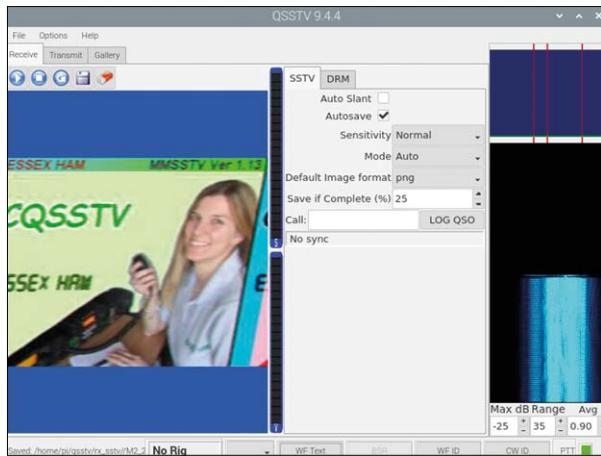

Figure 25.39: Image built on QSSTV screen.
- You should see the image received on the QSSTV screen as shown in Figure 25.39.